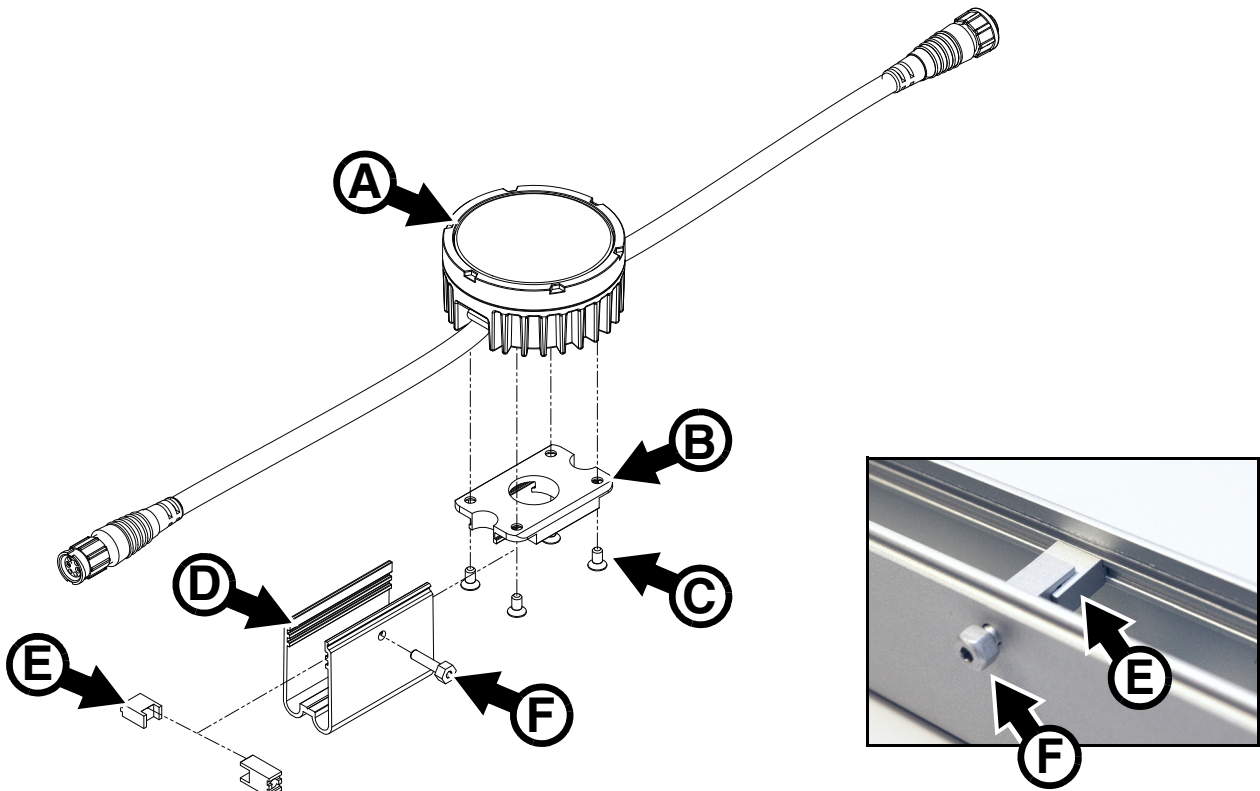

Figure 4: Installation in a 57 mm mounting profile
See Figure 4. Installing in a mounting profiles involves the following items:
1. See Figure 4. Fasten each dot **A** to a mounting profile bracket **B** using four screws **C**. Apply a small quantity of Loctite 243 to the screw threads, and use a torque driver to tighten to a torque of 2.5 Nm.
5. If you are going to install the dot now, apply a small quantity of Loctite 243 to the threads of the locking bolt **F** (if you are going to install the dot in the profile later, apply the Loctite when you install the dot). With the locking blocks **E** assembled as shown in Figure 4 and located in the grooves in the mounting profile, tighten the bolt **F** through the mounting profile and into the lock finger-tight only.